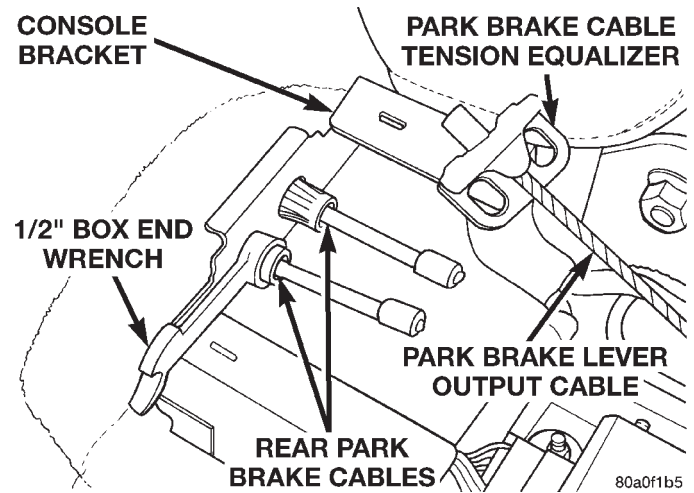

Fig. 139 Compressing Park Brake Cable Retaining Tabs
(18) Install the box end of a 1/2 in. wrench over the park brake cable retainer as indicated in (Fig. 139). This will compress tabs on park brake cable retainer, allowing cable to be removed from console bracket. From under carpet, grasp park brake cable housing and pull cable straight out of console bracket.